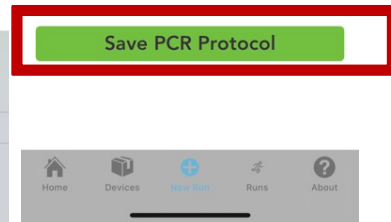

Figure 13: Save PCR Protocol
1.2.9. Exit the Duration/Temperature selection menu by touching on a blank area of the screen. You should now be able to see the green **Save PCR Protocol** option. Click on this to save the protocol (**Figure 13**).